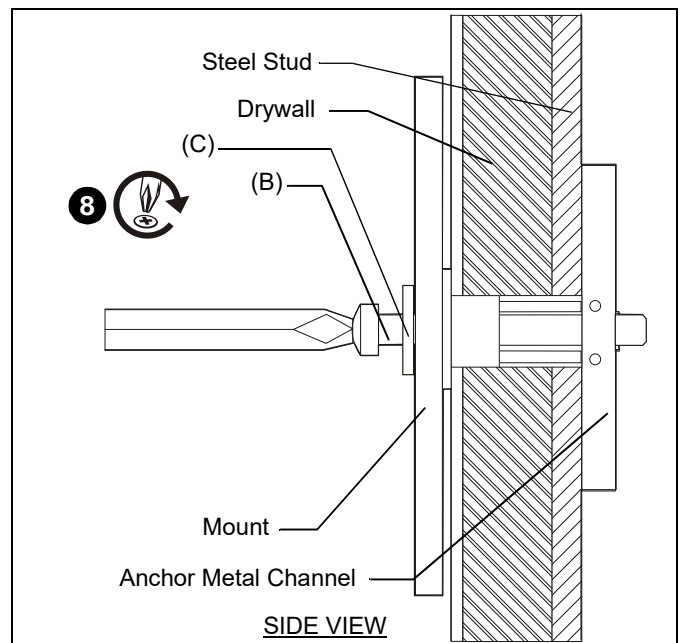

Figure 8
7. Place mount over anchors and align mounting holes in display mount with holes in anchors. (See Figure 8)
8. Insert 1/4-20 x 1-2/4" Phillips pan head screw (B) through 1/4" washer (C), corresponding mounting hole on mount and into anchor (A) and tighten until flush against mount. DO NOT overtighten! (See Figure 8)